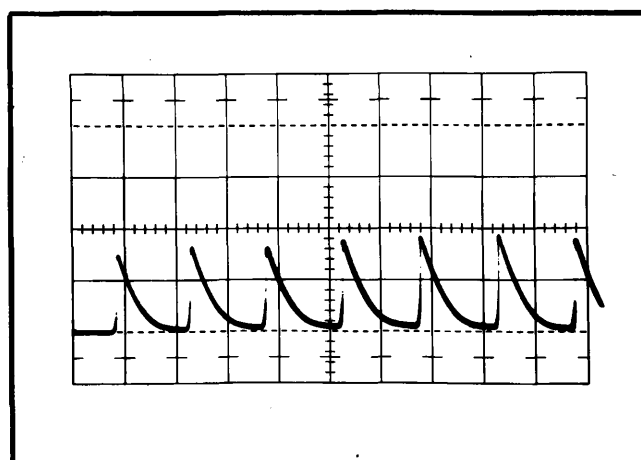

Fig. 6-24. 1 MHz marker display with VIDEO FILTER switched to ON. (Step 18).
c. Switch on the VIDEO FILTER and check for an attenuated display resembling a sawtooth (see Fig. 6-24).